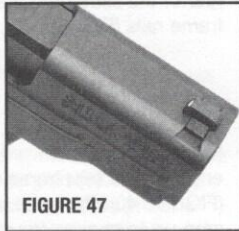

FIGURE 47
- The front sight (FIGURE 47) can be drifted left or right to adjust windage. Move the front sight in the opposite direction that you wish the group to move on target. For example, if the group should move to the right, move the front sight to the left (as viewed from the rear). Use a brass drift or punch to prevent marring the sight when moving it.